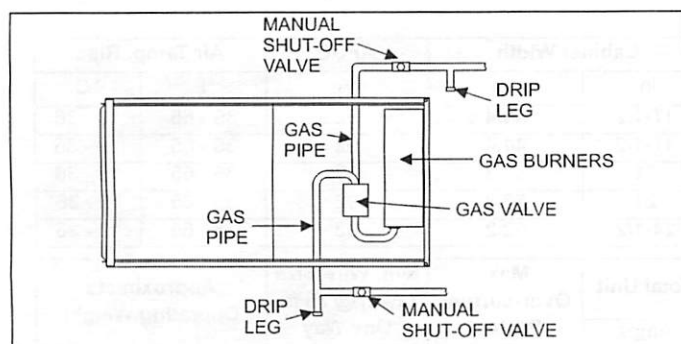

FIGURE 10: Horizontal Gas Piping
1. Provide a power supply separate from all other circuits. Install overcurrent protection and disconnect switch per local/national electrical codes. The switch should be close to the unit for convenience in servicing. With the disconnect or fused switch in the OFF position, check all wiring against the unit wiring label. Refer to the wiring diagram shown in Figure 10.